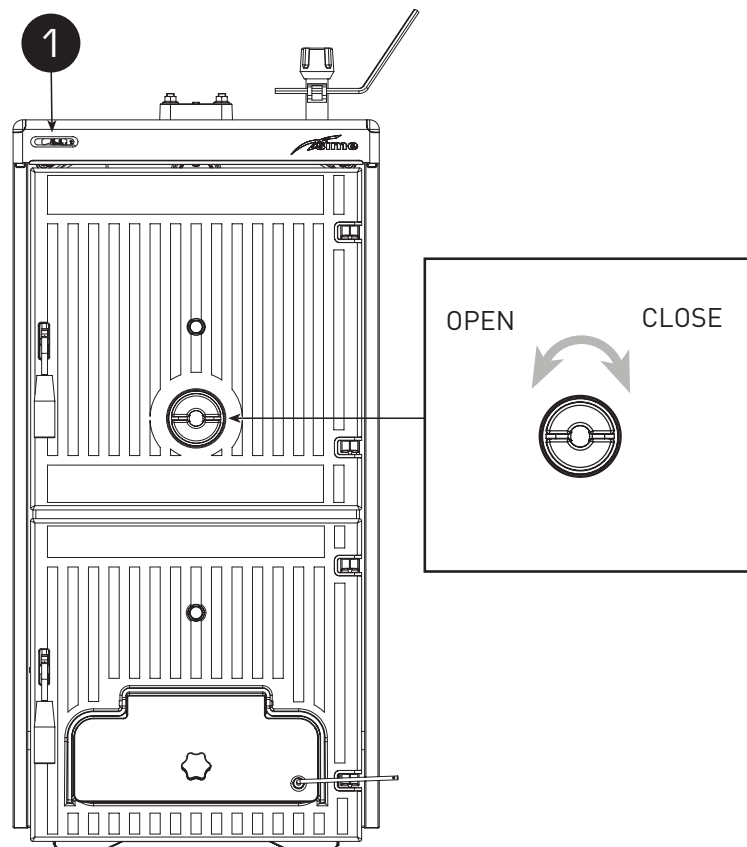

Fig. 11a
5.2 BOILER THERMOMETER (fig. 11a)
5.3 AIR ADJUSTMENT (fig. 11a-11b)